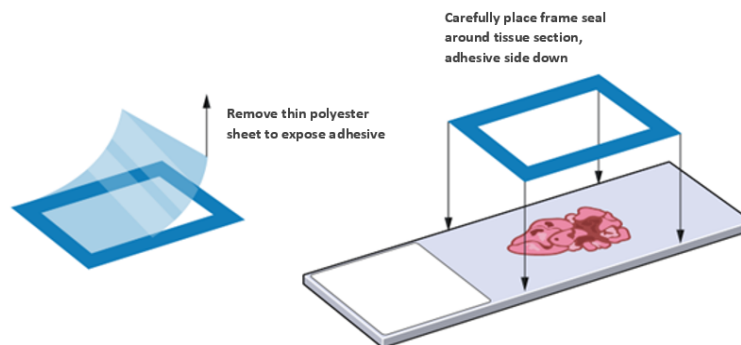

Figure 71: Apply Incubation Frame
5. Apply the incubation frame ( Figure 71 ).